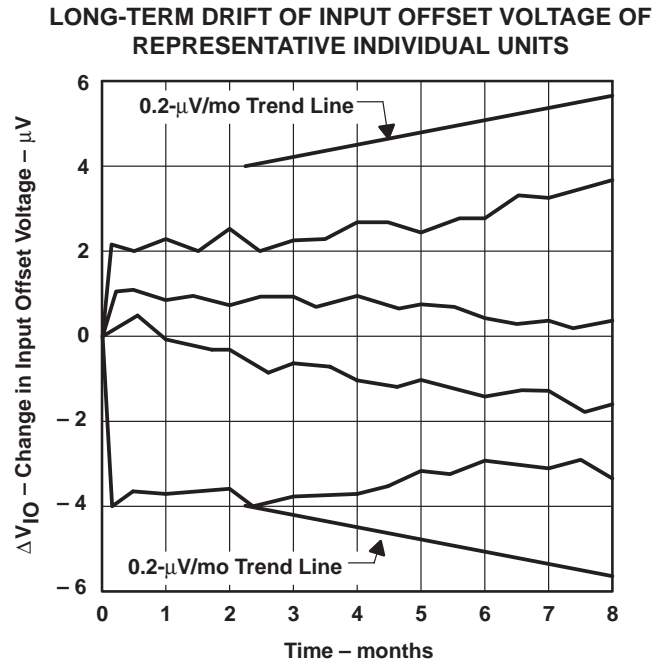

Figure 3
4. Long-term drift of input offset voltage refers to the average trend line of offset voltage versus time over extended periods after the first 30 days of operation. Excluding the initial hour of operation, changes in V_{IO} during the first 30 days are typically 2.5 μV (see Figure 3).
4. Long-term drift of input offset voltage refers to the average trend line of offset voltage versus time over extended periods after the first 30 days of operation. Excluding the initial hour of operation, changes in V_{IO} during the first 30 days are typically $2.5 \mu\text{V}$ (see Figure 3).